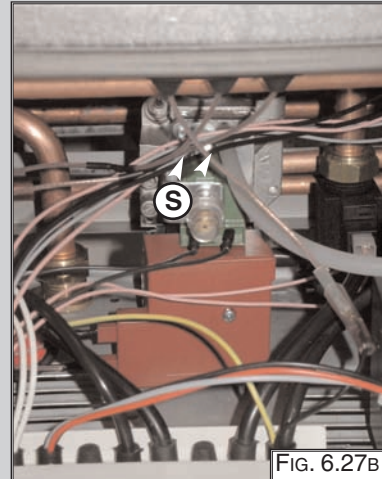

FIG. 6.27B
1. Disconnect ignition leads "S" by pulling upward (FIG. 6.27B);